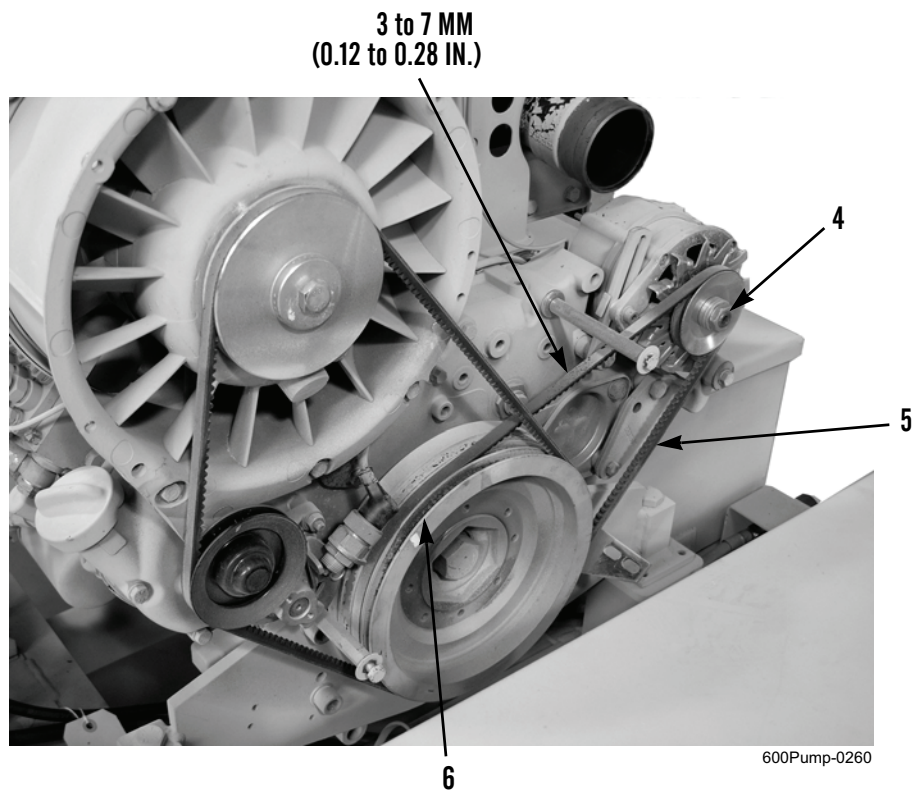

Figure 2. Alternator V-Belt.
1. Visually inspect alternator V-belt (Figure 2, Item 5) for cuts, frays, breaks, or other damage.
2. Check belt deflection midway between alternator pulley (Figure 2, Item 4) and crankshaft pulley (Figure 2, Item 6) with gauge unit. Deflection should be 3 to 7 mm (0.12 to 0.28 in.).
3. If tension is not correct, adjust tension or replace alternator V-belt (Figure 2, Item 5) (WP 0029).